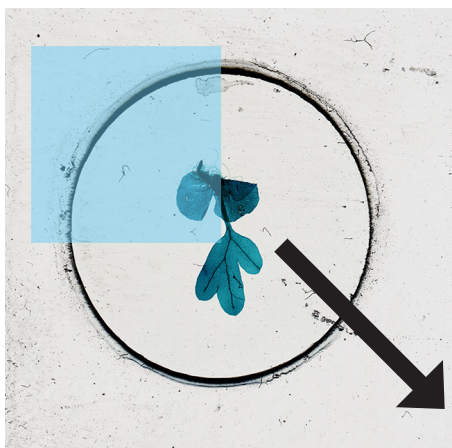

Fig. 1
2. After settings have been applied, press and hold left mouse button at one corner of the area where you want to scan, and then slide diagonally to the opposite corner of the area to highlight the area before the final Scan. See Fig 1. You may also move the highlight box to a new area you want to scan by pressing and holding left mouse button at the center of the highlight box after an arrow appears. Fig. 2 & 3.